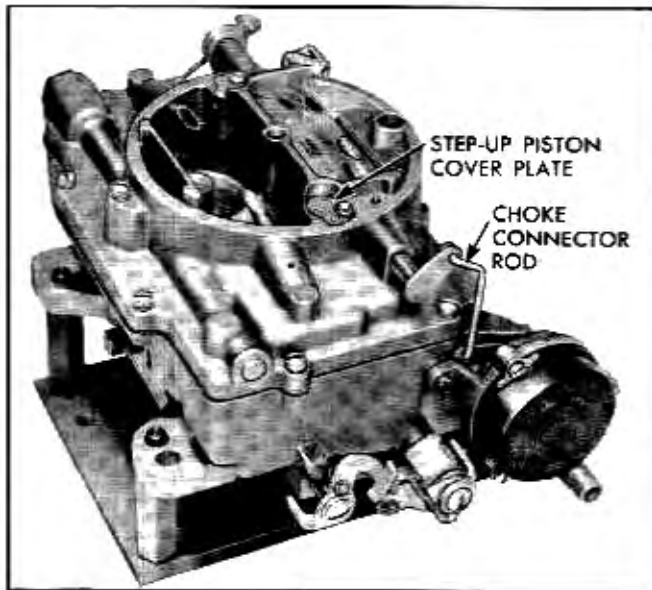

Fig. 6B-71 Carter AFB Carburetor
3. Remove fast idle connector rod at upper end. (Fig. 6B-70).